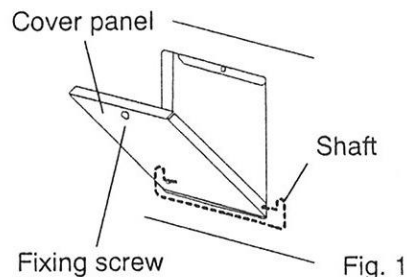

Fig. 1
2. Remove the fixing screw and open the panel cover. (Fig. 1)